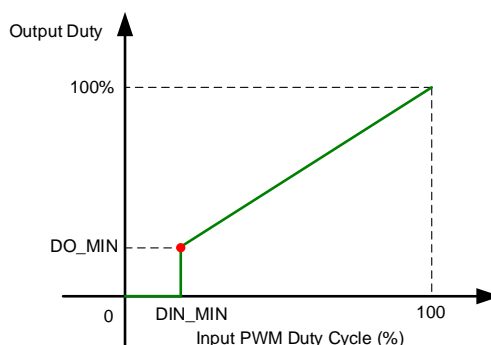

Figure 4: Speed Curve (SPD_ZERO = 1)
3. SPD_ZERO = 1: The OUT1/2 output duty stays at 0 (see Figure 4).